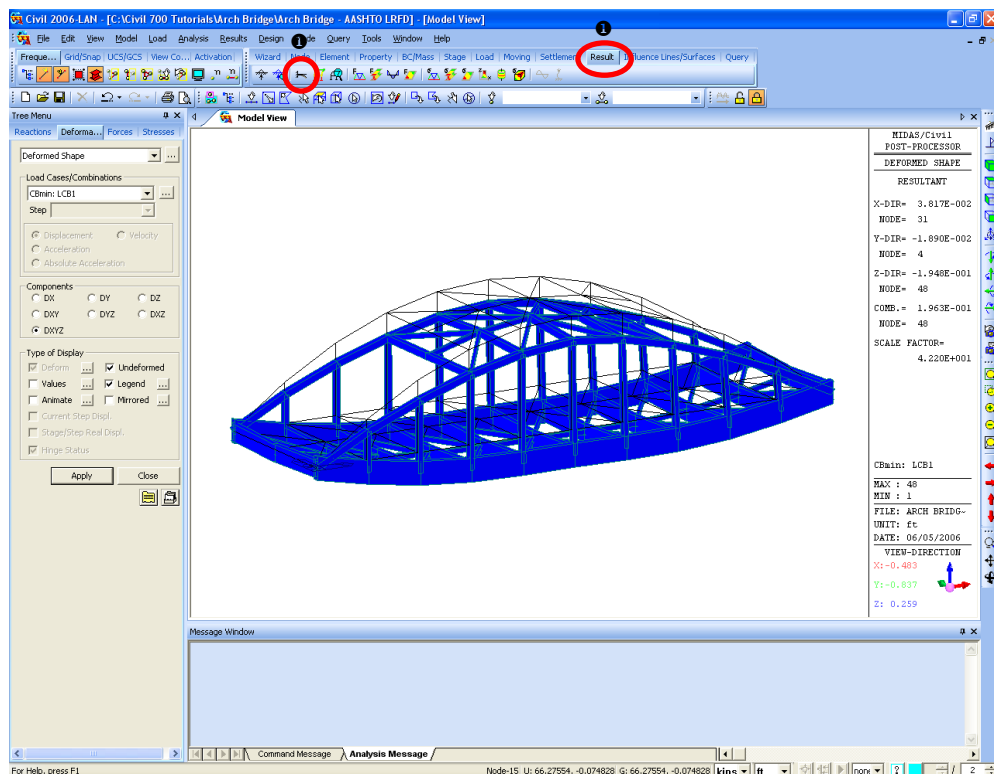

Figure 4.27 Deformed Shape
Use the following procedure to check the deformed shape (Figure 4.27):
1. Click  **Deformed Shape** on the **Result** tab in toolbar (Figure 4.27 ❶).